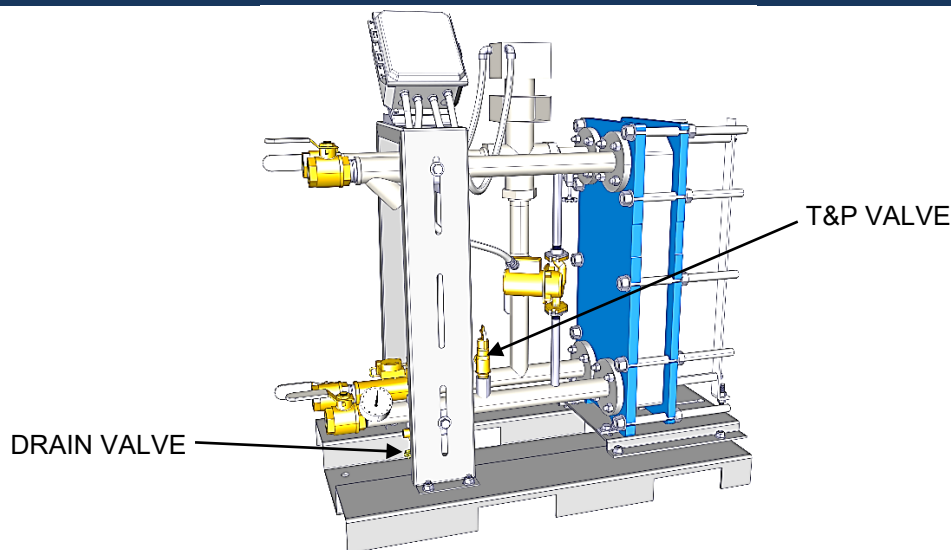

FIGURE 4-4: T&P Relief Valve Replacement Location
- 3) Unscrew and remove the T&P relief valve from its mounting location (Fig. 4-4).